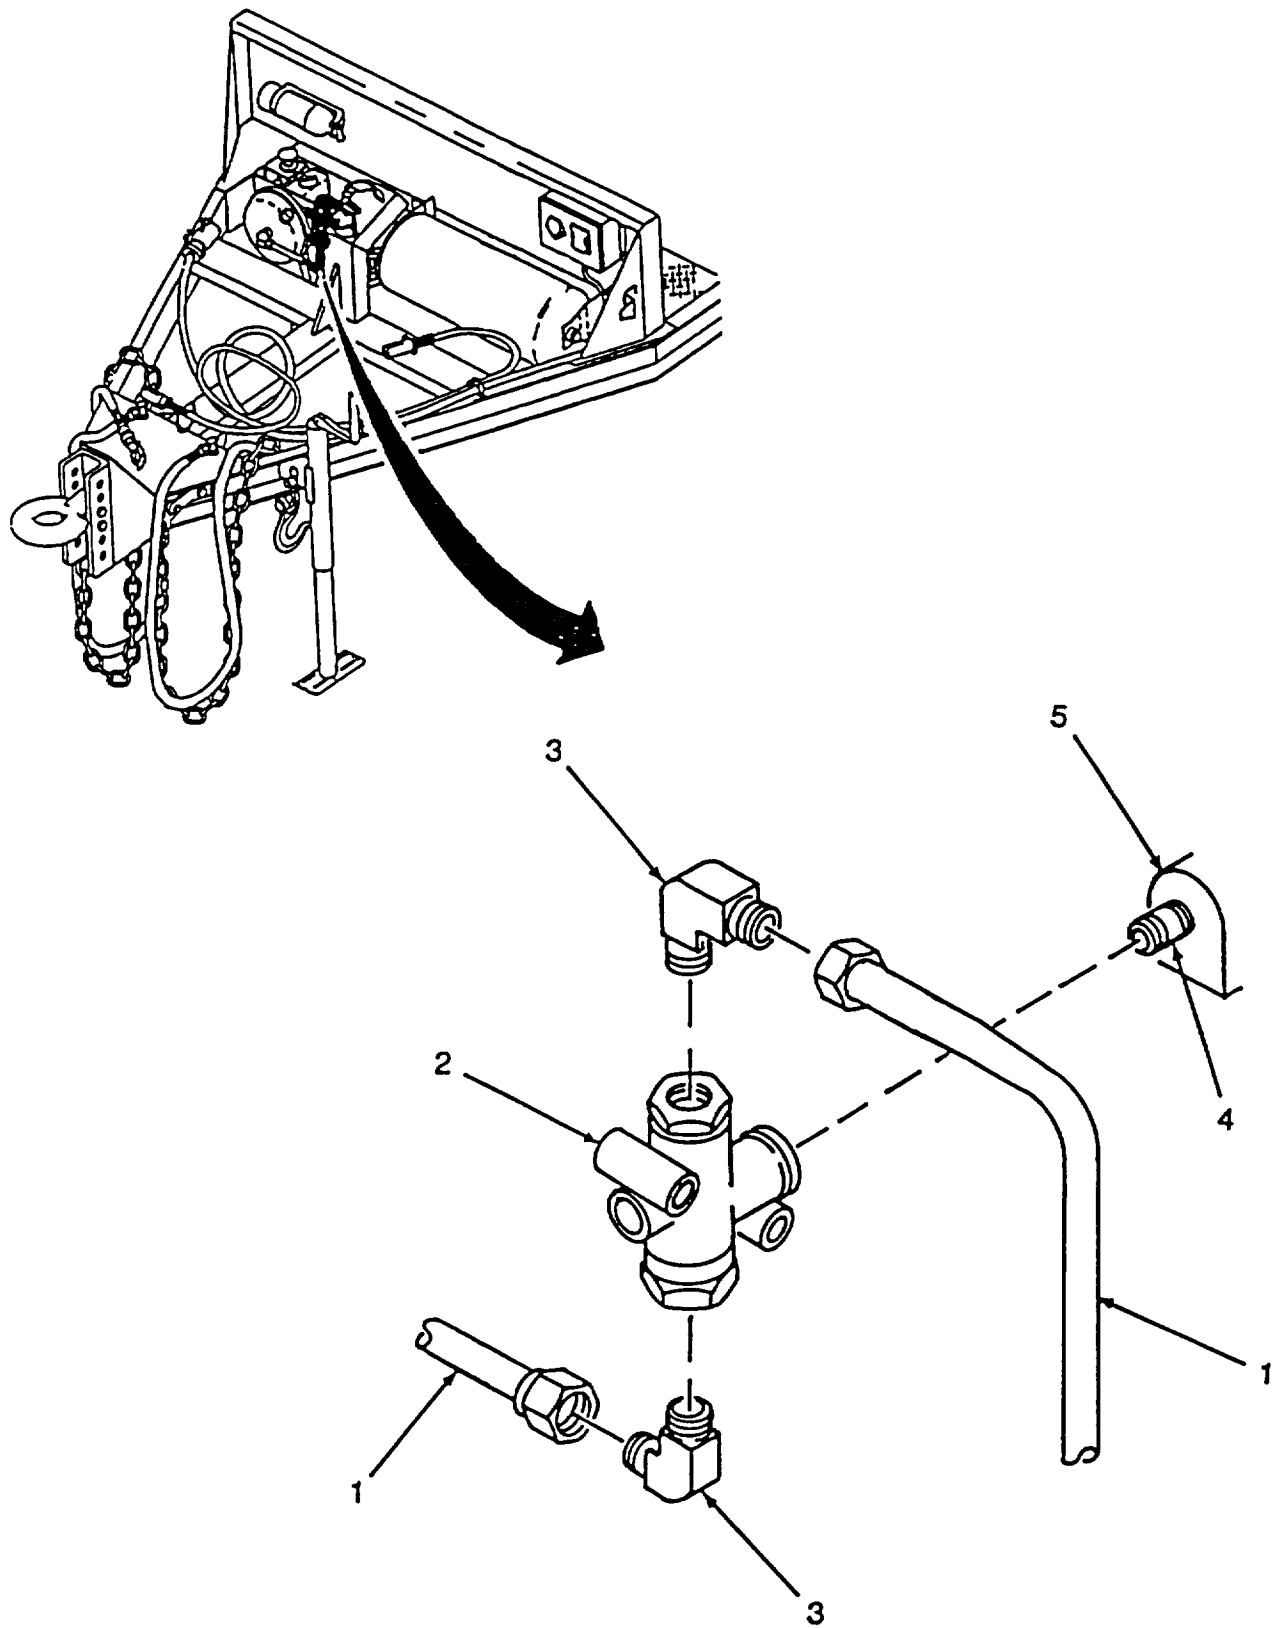

Figure 4-53. Synchronizing Valve
a. Removal. (Refer to Figure 4-53).
- (1) Completely vent trailer air brake system pressure by opening drain valve. (para. 4-51).
- (2) Disconnect two air brake lines (1) from two elbows (3).
- (3) Unscrew two elbows (3) from ports of synchronizing valve (2).
- (4) Remove synchronizing valve (2) from hex nipple (4) in quick release and limiting valve (5).
- (5) Clean and Inspect synchronizing valve (2), two male elbows (3), and air brake lines (1).